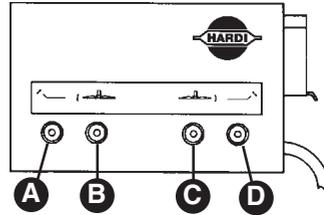

Fig. 6
- Activate switches (A) & (D) (Fig. 6) and move hydraulic handle forward or rearward to activate oil flow. Switch positions of the hoses in the double acting outlet if you do not like the direction required to activate the boom.
1. Flip switch (B)(Fig. 6) or (C)(Fig. 6) to "ON" position, depending on which side is to be tilted.
Switch (B)(Fig. 6) operates: Left hand tilt cylinder
Switch (C)(Fig. 6) operates: Right hand tilt cylinder